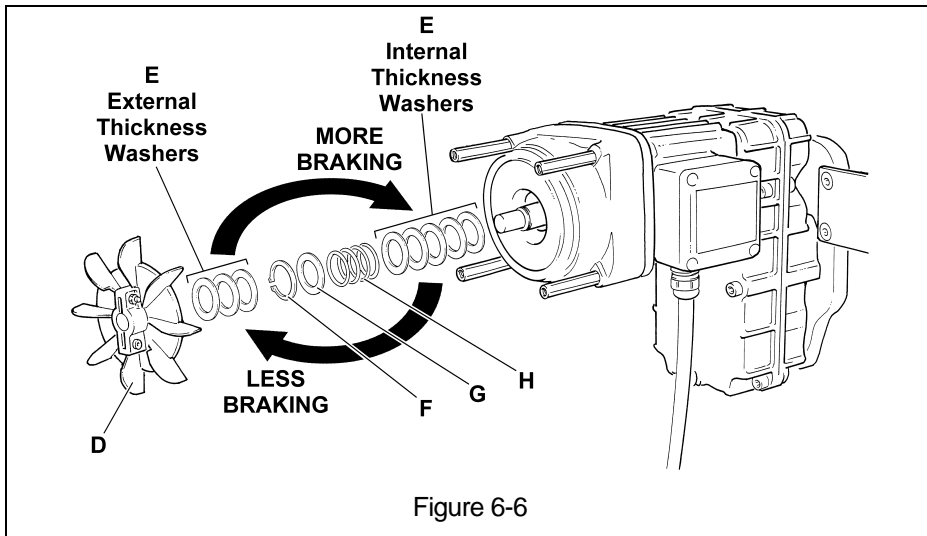

Figure 6-6
- 2) To INCREASE braking, add some or all of the external Thickness Washers (E) to the Thickness Washers (E) adjacent to the motor as necessary to obtain the required braking force (see Figure 6-6).
- 3) To DECREASE braking, remove a quantity of the internal Thickness Washers (E) adjacent to the motor and add them to the external Thickness Washers (E) during re-assembly (between the fan (D) and the snap ring (F) as required to obtain the required decrease in braking force (see Figure 6-6).
- 4) Reinstall the Spring (H), Pressure Washer (G), Snap Ring (F), Thickness Washers (E), Fan (D) and Lock-Nut (C).
- 5) Reinstall the trolley Motor Cover (A) using the 4 Screws (B).